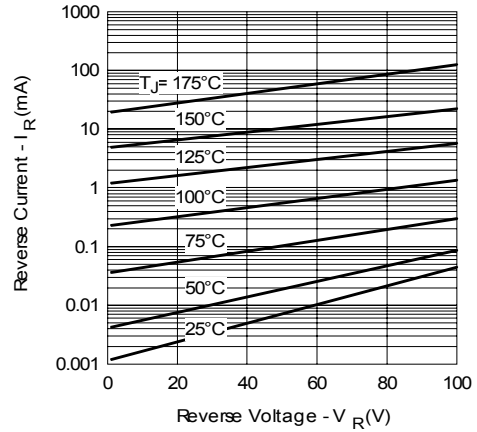

Fig. 2 - Typical Values Of Reverse Current Vs. Reverse Voltage (Per Leg)
| I_{RM} Max. Reverse Leakage Current (Per Leg) * See Fig. 2 (1) | 1 | mA | $T_J = 25^\circ\text{C}$ $V_R = \text{rated } V_R$ |